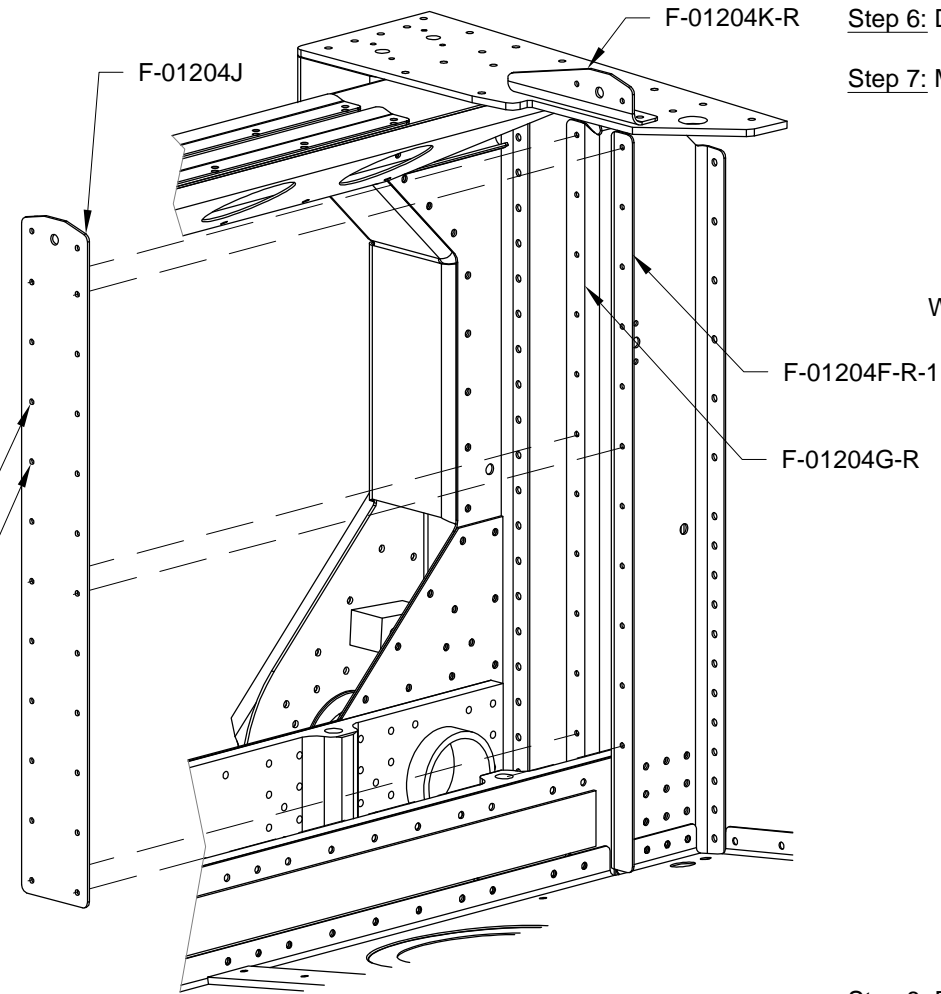

FIGURE 1: F-01204J INSTALLATION
Step 2: Rivet F-01204J to F-01204F-R-1, F-01204G-R, and F-01204K-R as shown in Figure 1.